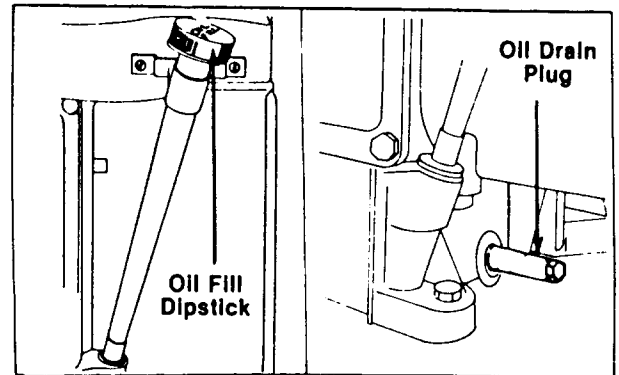

FIGURE 15
After the first five hours of operating a new engine, drain the oil (See fig. 15) from the crankcase while engine is still hot and refill crankcase with new oil; thereafter change the oil every 25 hours of operation. This procedure ensures minimum wear of engine parts and provides virtually trouble-free operation. To change the oil, proceed as follows:
- Step 1. With the machine on level ground place a suitable metal container under the oil drain plug, then remove the drain plug. See fig. 15.